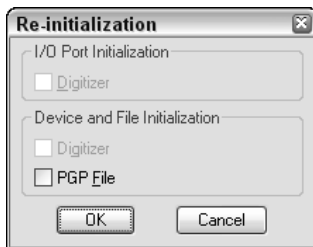

Figure 29-4: The Re-initialization dialog box
11. Close Notepad. Generally, AutoCAD only reads acad.pgp when loading a new or existing drawing. However, you can use the REINIT command to reload the file at any time. Type **reinit** ↵. AutoCAD opens the Re-initialization dialog box, as shown in Figure 29-4.